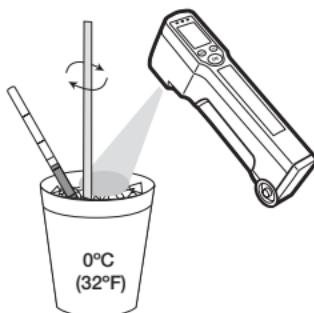

Figure 10
3. Continue stirring the water with a straw or swizzle stick while taking simultaneous temperature measurements with the reference probe and the IR thermometer. The unit should be held within 3 inches of the surface of the water (**Figure 10**). To insure measurement accuracy the probe tip must be immersed to a minimum depth of 12mm (1/2").